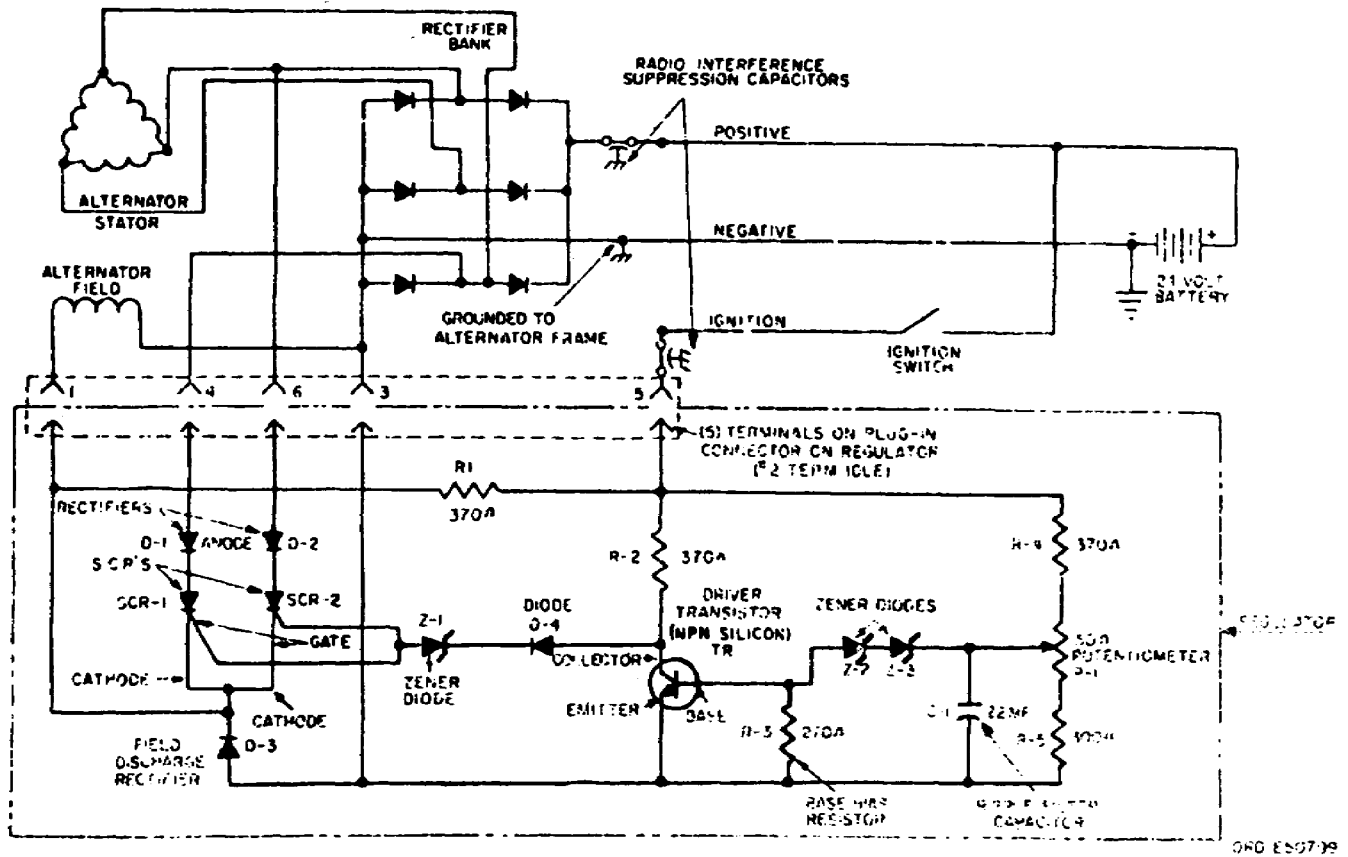

Figure 43. Schematic of regulator.
d. Generators are equipped with internally mounted regulators that control the output of the generator. The generator, rectifier, and regulator (models 3002AC and 3002AD) are illustrated schematically in figure 43. Operation of the regulator is as follows: